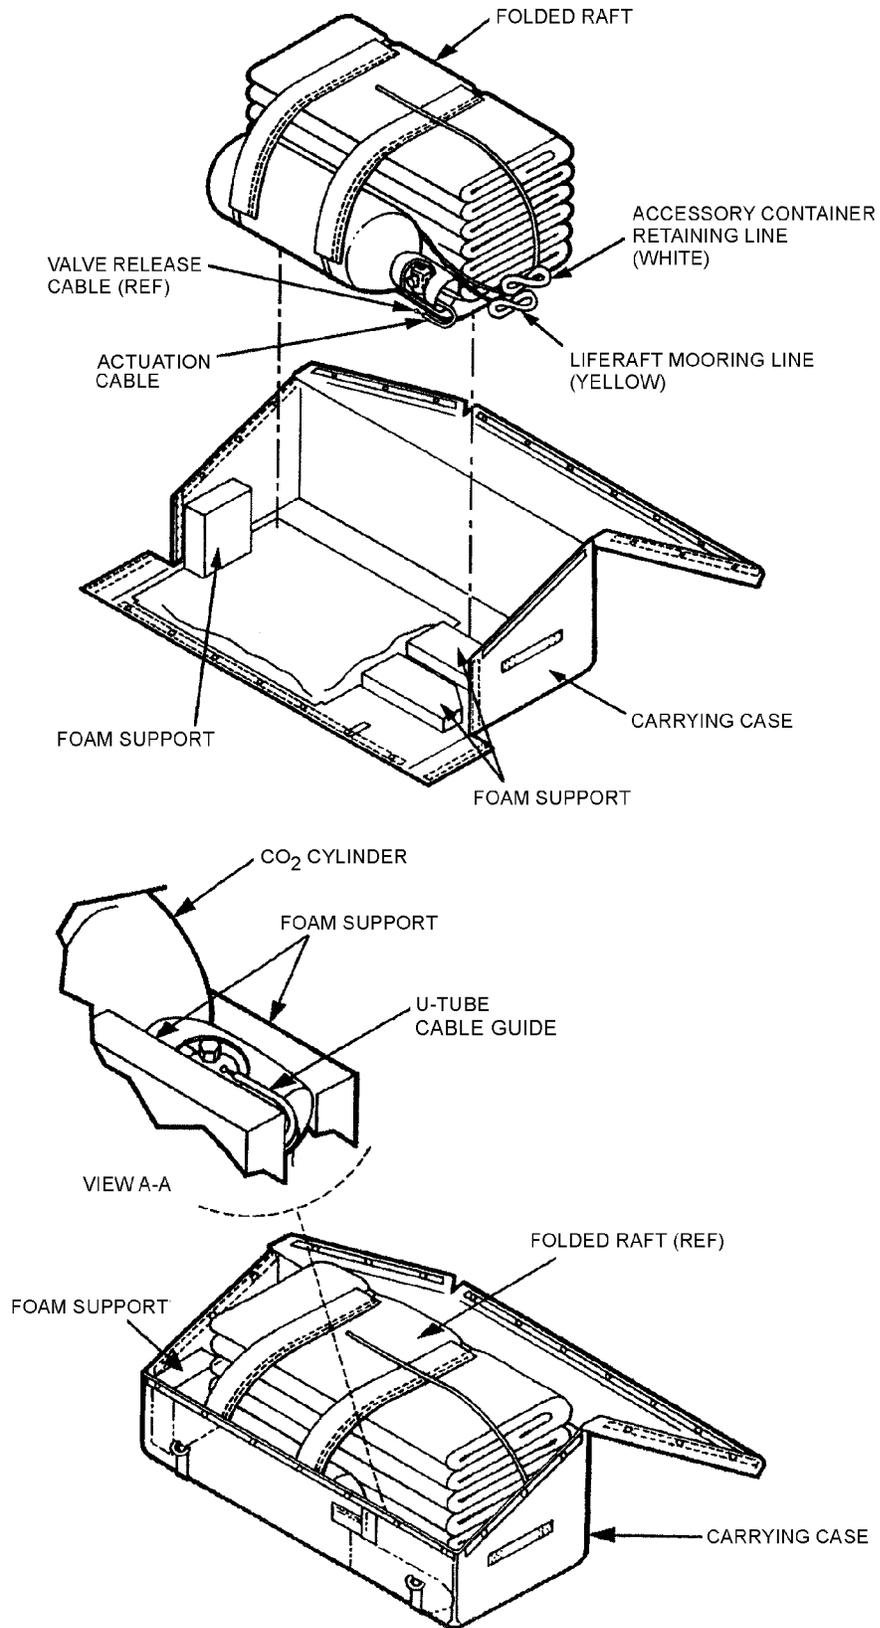

Figure 14-4. Packing Liferaft Assembly in Carrying Case
3. Place the liferaft assembly in the carrying case (figure 14-4). Ensure the inflation valve is placed between the two foam blocks on the right. The end of the carbon dioxide cylinder should be resting against the single foam block at the opposite end of the carrying case.